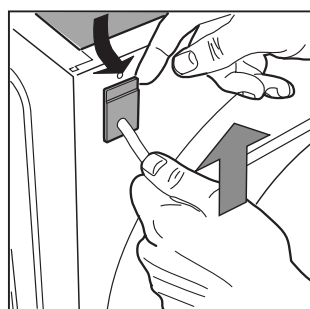

Fig. 5
- Remove the upper part of the cable slightly from the back panel of the appliance, pull the power supply cable upwards and take it out [fig. 5].